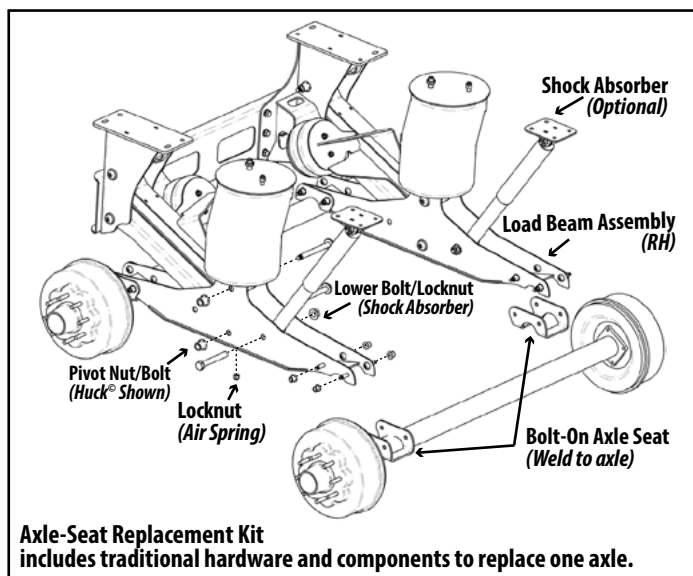

Figure 11.
1. Remove wheels and tires from axle. Provide vehicle support for axle removal and replacement (Fig 11).